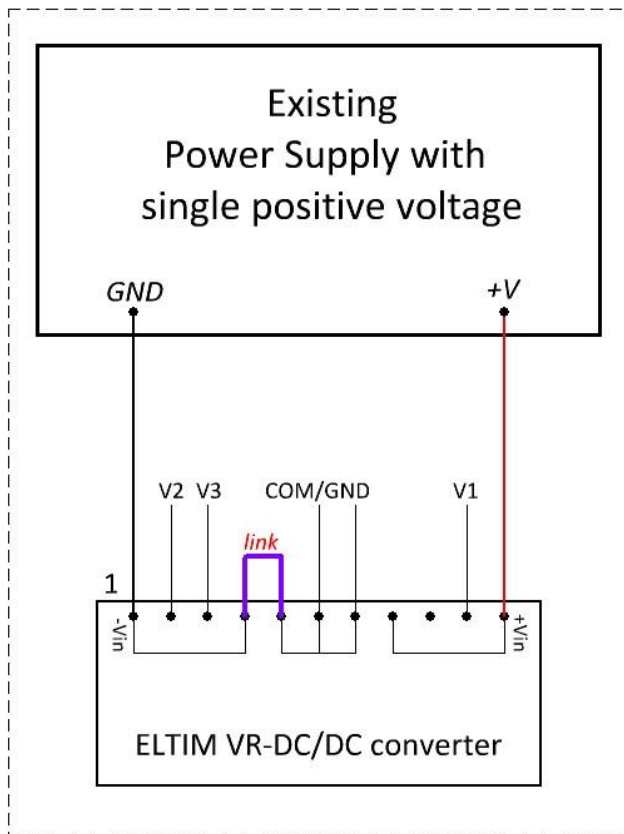

Fig 3: Single positive supply host, with common ground
- For single, positive voltage host supplies: link **-Vin** (=Host GND) with **COM** of our module (fig 3). While using our single voltage Power Supply modules, we already made this link on the PS-board. Just mount this VR-RDC30 module on the header location on the PS-module and all works.